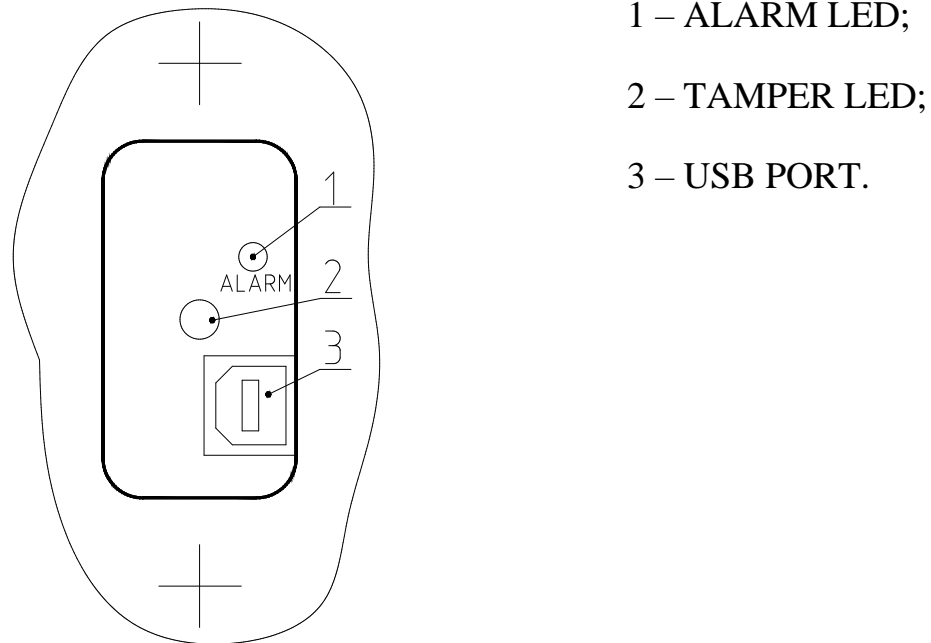

Figure 1.3 – Configuration elements of ZEBRA-9.30
1.4.3.1 Figure 1.3 shows the configuration elements located under the lid.